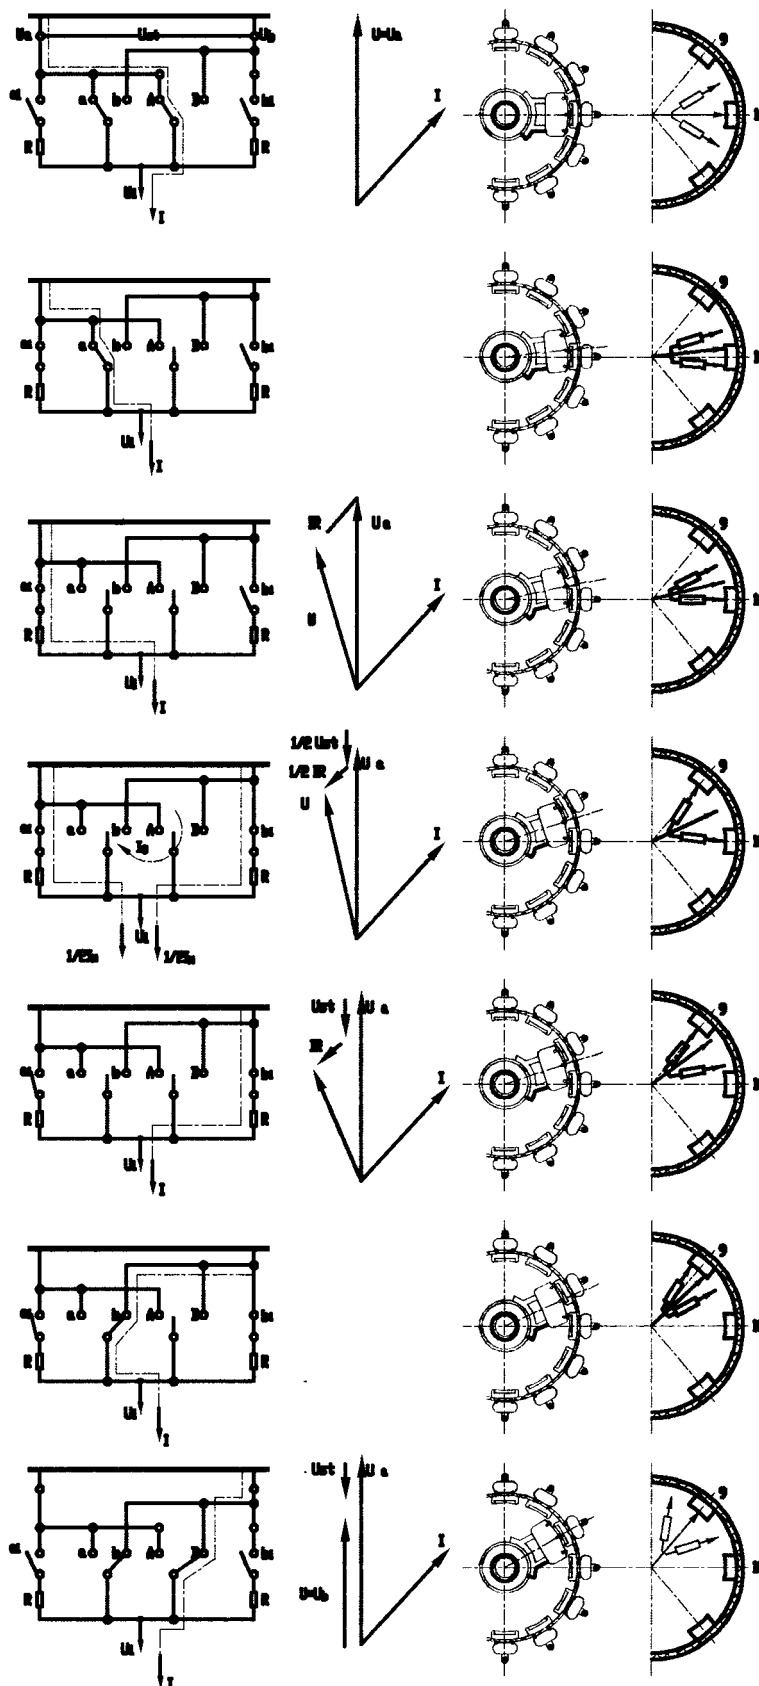

Fig.9
6.4 Switching sequence of contacts and the variation of output voltage (fig.9).